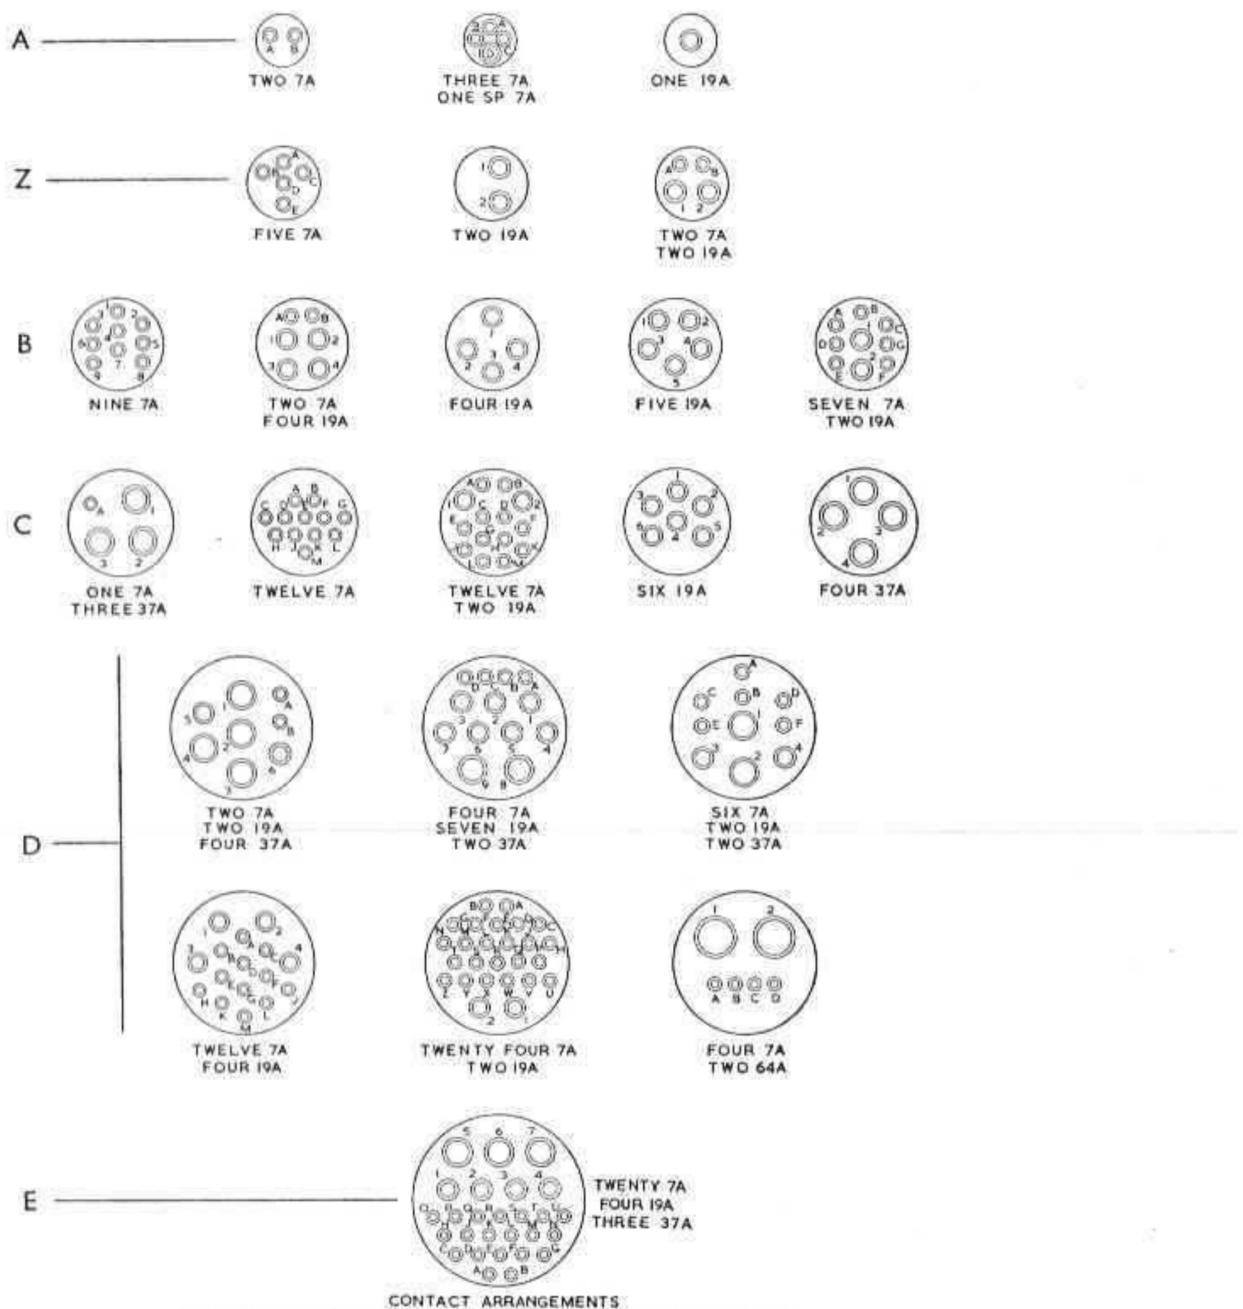

Fig. 20. Contact arrangements
57. Twenty three different contact arrangements are available in the six shell sizes for contacts having current ratings of 7A, 7A (special), 19A, 37A and 64A. The contact arrangements possible in each of the shell sizes (specified as A, Z, B, C, D and E) are shown in fig. 20. Note: early stage units may have contact arrangements which include 17A (special) and 200A contacts (para. 38 and Tables 1 to 13).